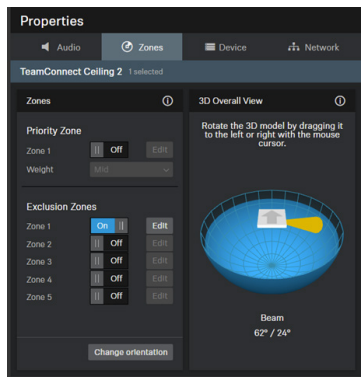

Figure 6. Control Cockpit Properties Window
2. Under the Zones tab, the 3D Overall View shows the real-time focus of the TCC2 automatic beam-steering (see figure 6 on page 6). Users can manually enable a Priority or Exclusion Zone,